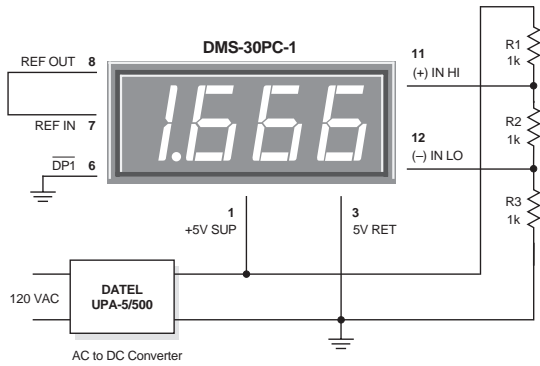

Figure 3. Differential Input Configuration
**2. Differential Input Configurations:** Differential measurements can be made with all DMS-30PC meters. Figure 3, though not a practical real-world application, uses a voltage divider to demonstrate the concept of a differential input signal. Be careful not to exceed the ±2V common mode voltage limitation for 5V-powered meters.